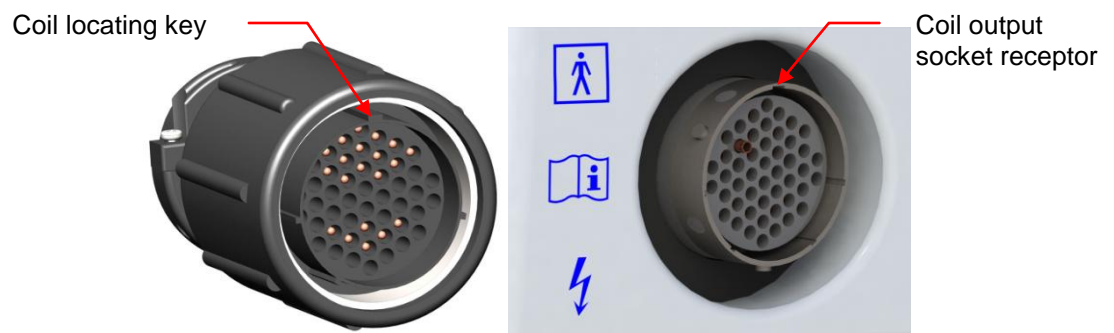

Figure 4.5: Locating key on the coil connector (left) and the receptor on the stimulator coil output socket (right)
**Note:** There is locating key on the coil connector, which needs to be aligned with the corresponding receptor on the stimulator coil socket. It is then possible to rotate the outer collar of the coil connector clockwise in order to lock the coil to the stimulator. (See Figure 4.5)